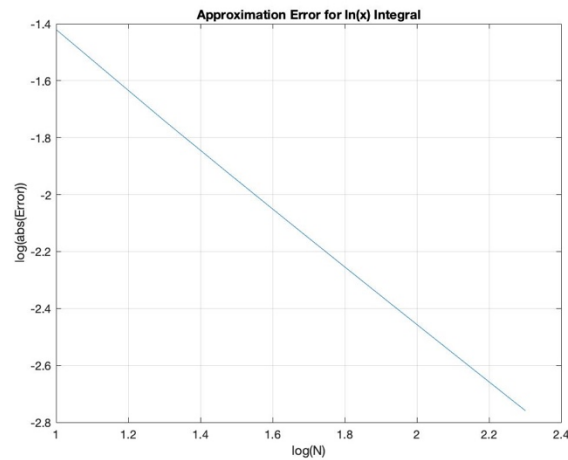

Figure 8 - The log of the error as the log of the number of segments increases
3. (b) Table 3 shows the approximate integral of $\ln(x)$ from 0 to 1, and the corresponding error as the number of segments varies from 10 to 200 (selected values shown). Figure 8 shows the log of the error versus the log of the number of segments. As in 3.a., the logarithmically scaled error decreases linearly as the number of segments increases. The true value of the integral is -1.0.